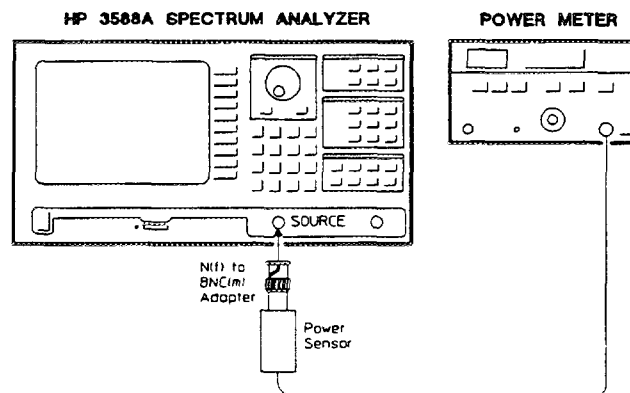

Figure 3-7. Source Response Setup for High Frequencies
6. Connect the test equipment as shown in figure 3-7.